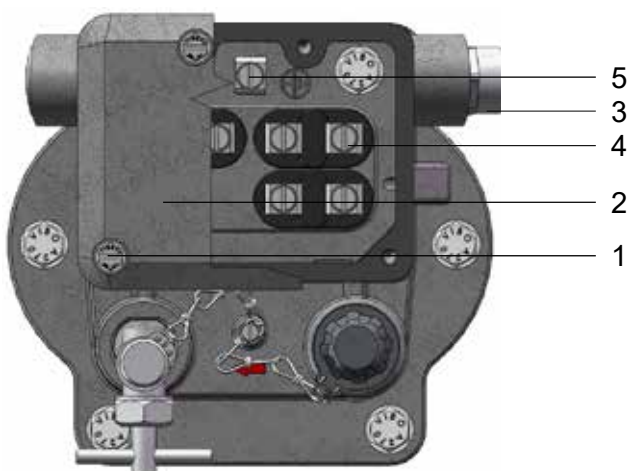

Figure 4 - Electrical connection for up to 8 bushings
- Remove 4 screws M5 (Fig. 4/ no. 1)
- Remove the cap (Fig. 4/ no. 2)
- Insert the lead through the cable gland (Fig. 4/ no. 3)
- Connect the lead to the terminal studs (Fig. 4/ no. 4) (maximum torque 3 Nm)
Connect the protective conductor (green-yellow insulation) to the earth terminal (Fig. 4/ no. 5) (maximum torque 3 Nm)